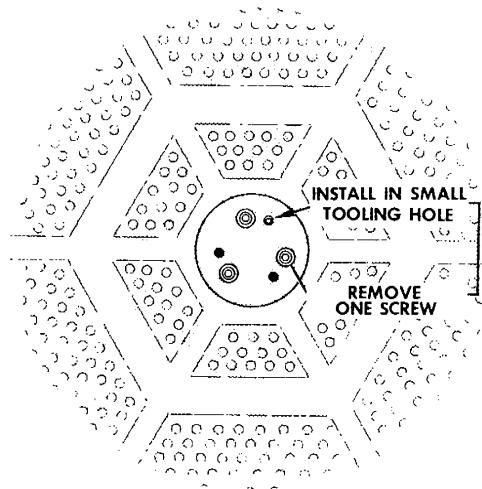

Figure 16
1. Remove one drum mounting screw and drive it into the small tooling hole (Figure 16.) This secures the heat deflector to the drum and acts as a parts holding screw.